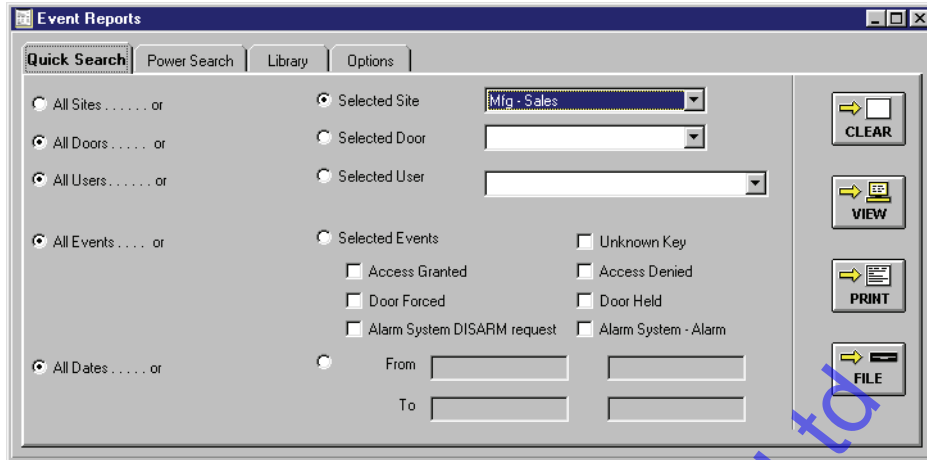

Figure 8-23: Quick Search, Selected Site
3. Scroll up and down this list and locate the site for event reporting. Click on that site name and it will be entered into the selected site field (see Figure 8-23 on page 20 of this section).